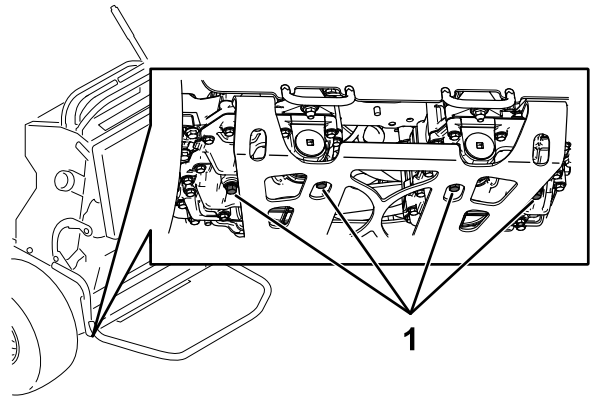

Figure 70
3. Locate the drain plugs in the bottom of the transmission and place a drain pan under the plug (Figure 70).